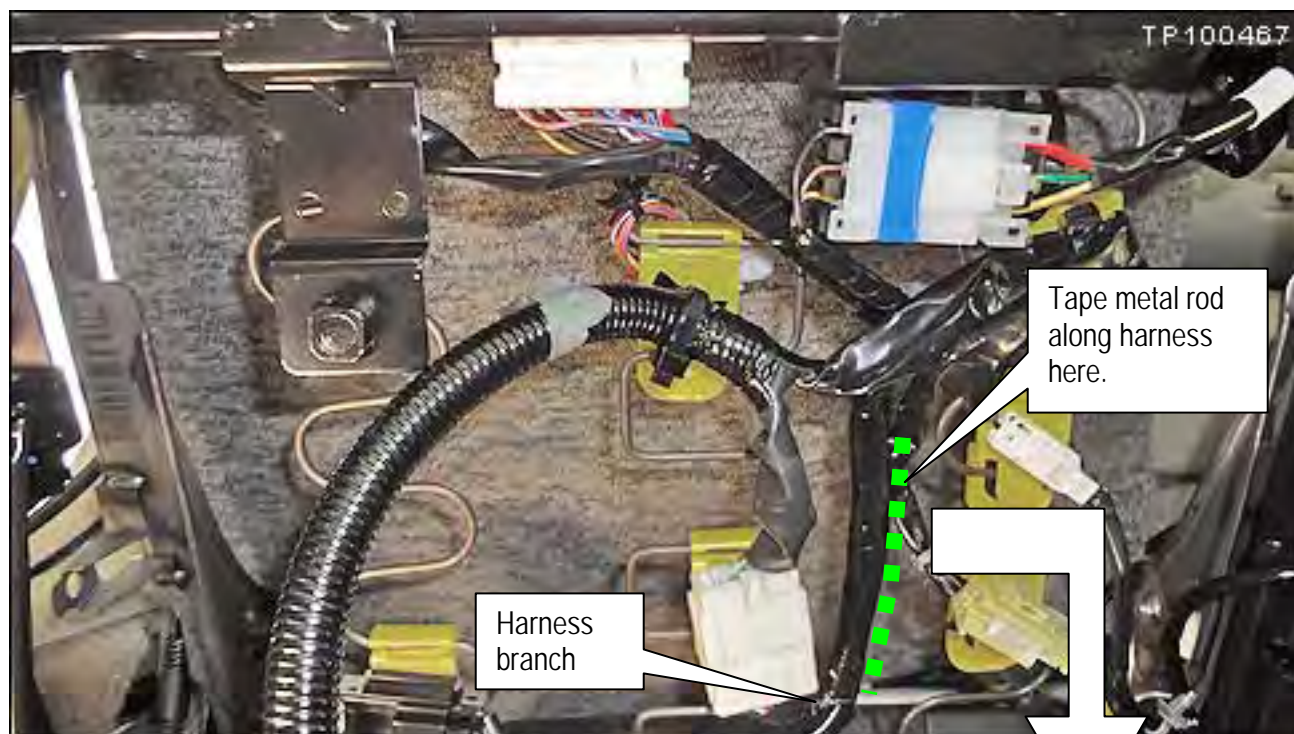

Figure 3c
5. Tape the metal rod (P/N 87607 – CF90A) to the seat harness as shown in Figures 3c and 4c.